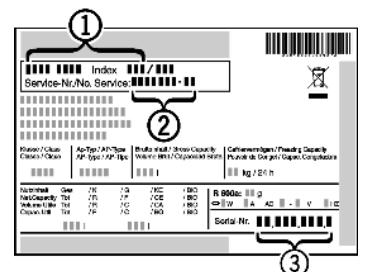

Fig. 33
- ▶ Read the appliance designation Fig. 33 (1), service No. Fig. 33 (2) and serial No. Fig. 33 (3) off the type plate located inside the appliance on the left-hand side.
- ▶ Notify the customer service, specifying the fault, appliance designation Fig. 33 (1), service No. Fig. 33 (2) and serial No. Fig. 33 (3).